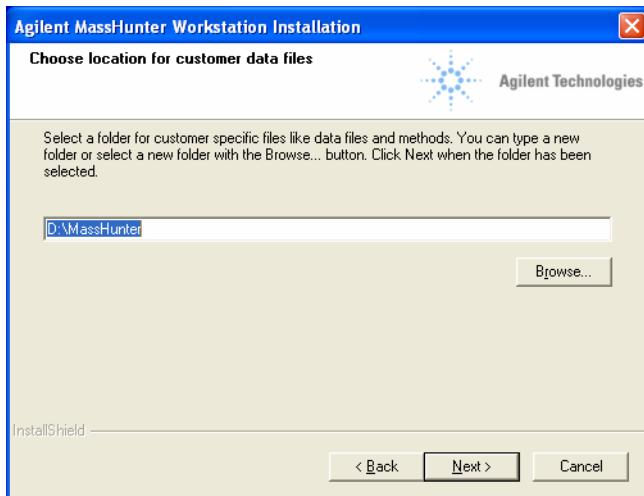

Figure 20 Location for data files
- f In the Choose location for customer data files screen, check that the default of **D:\MassHunter** is displayed in the text box, then click **Next**. See Figure 20.